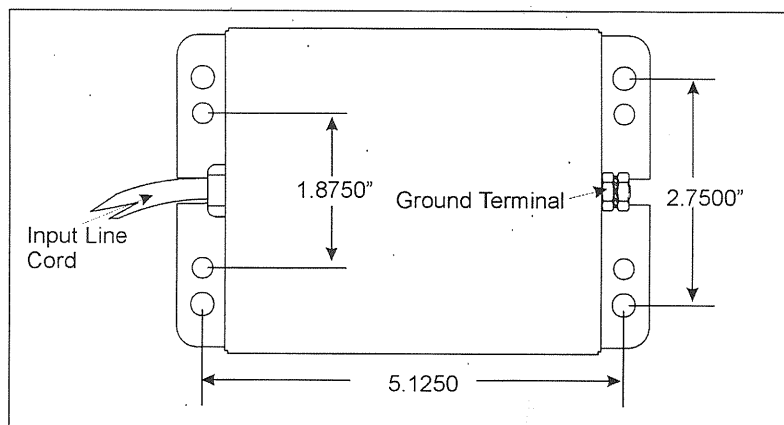

Figure 15
3. Drill four 9/32” diameter clearance holes for mounting the power supply using 1/4-20 hardware. Refer to Figure 15 for dimensions between clearance holes.